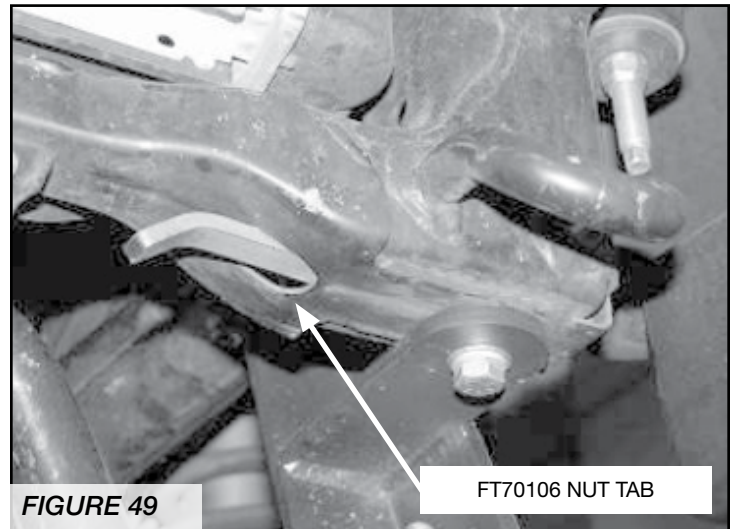

FIGURE 49
35. Locate FT70100BK (2006-09) or FT70164BK (2010-12) Driver Sway Bar Drop Bracket, and FT70101BK (2006-09) or FT70165BK (2010-12) Passenger Sway Bar Drop Bracket and the factory sway bar, with hardware. Also locate the supplied 3/8" x 1 1/4" hardware. Position the new drop bracket on the frame so the sway bar will be mounted forward of its factory position and attach with the factory hardware. Use a paint pen or center punch and mark the core support / frame at the front tab of the drop bracket. Use a drill with a 1/2" bit and drill a hole into the support. Locate FT70106 Sway Bar Bracket Nut Tab and the supplied 3/8"x 1 1/4" bolt, flat washer, and split washer. Insert the nut tab into the frame and attach with the 3/8" hardware. **SEE FIGURE 49**